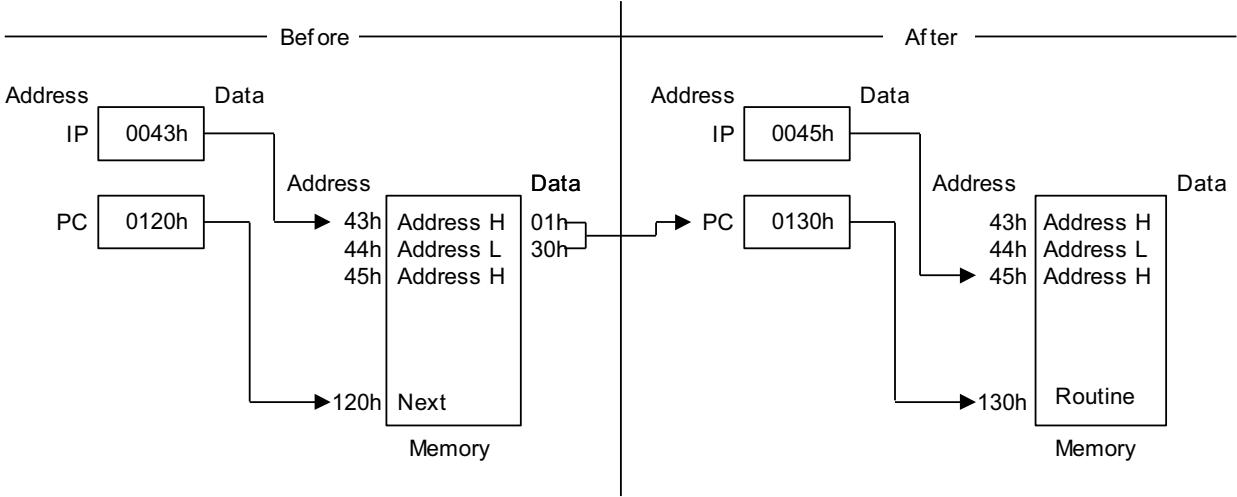

Figure 51. How to Use the NEXT Instruction
**Example**        Figure 51 shows an example of how to use the NEXT instruction.